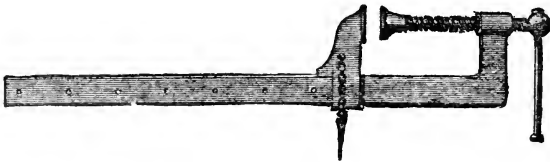

Fig. 41.—Iron Cramp.
*Cramps* are made both of iron and wood. The latter is generally a home-made article, and for most purposes is sufficient, but occasionally something more powerful is wanted, and the cabinet-maker is advised to have one, if not two, of iron. The general form is shown in Fig. 41, which represents a plain iron clamp. The wooden ones are similar in principle, the modifications being only such as required by the material. As the wooden